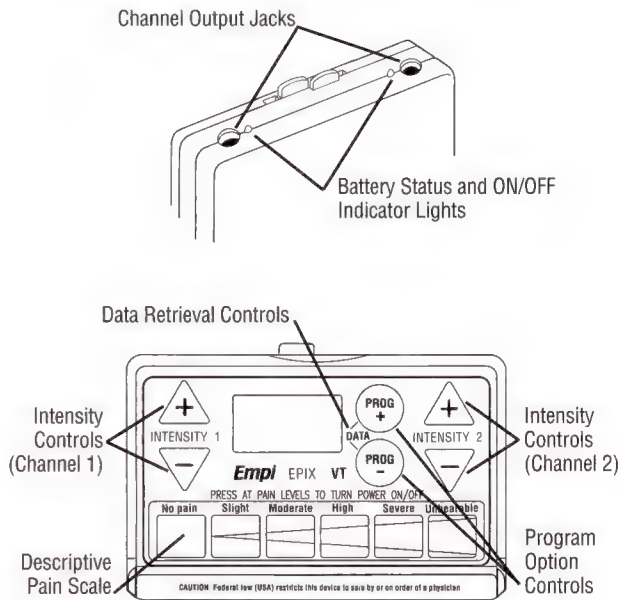

Figure 1.
Become familiar with the location of the features of the Epix VT TENS device before initiating treatment. Figure 1 outlines the Channel Output Jacks, the combined Battery Status and ON/OFF Indicator Lights, the Intensity Controls, the Program Option Controls, the Descriptive Pain Scale and the Data Retrieval Controls.
There are two Safety Jacks labeled "1" and "2" (Figure 1). These jacks allow lead wires to be connected to the TENS device. Channels 1 and 2 operate independently.
Epix VT amplitude is adjustable from 0-60 milliamperes. The intensity (amplitude and pulse duration) of the stimulation available through each of the lead wires attached to either or both of the channels is controlled by the push buttons on the control panel (see Figure 1). Depressing the up-arrow button increases the intensity of the stimulation. When increasing intensity, output will be delivered continuously. Decreasing the intensity level is done by depressing the down-arrow. Increasing or decreasing intensity adjusts amplitude and pulse duration simultaneously.
Epix VT offers twelve (12) program options. Selecting a specific program option is done by depressing one of the PROG buttons (Figure 1). The "PROG +" and "PROG -" buttons allow going forward or backward when selecting the program option. A description of the available program options is described in the Program Options section of this manual.